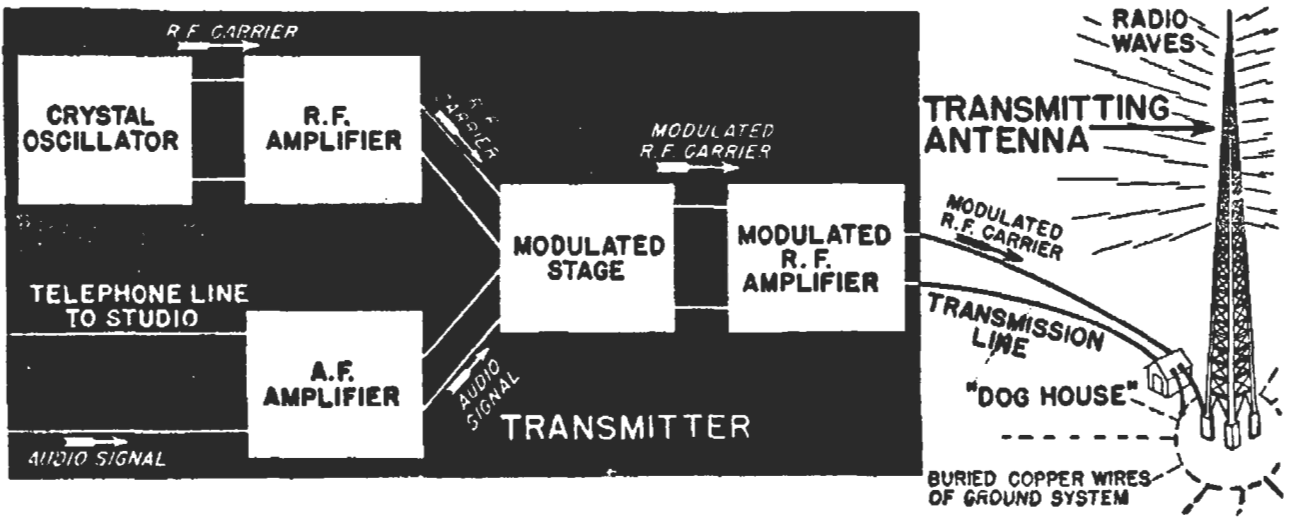

FIG. 12. All the main sections of a broadcast transmitter are shown here, along with the basic connections to the transmitting antenna.
**R. F. Amplifier.** At this point, a "picture" of the main sections of a complete transmitter will help you to understand how the audio signal and the r.f. carrier get together. This picture is given in the block diagram in Fig. 12.
The modulated r.f. carrier signal at the output of a radio transmitter is fed to the transmitting antenna tower over a special two-wire transmission line which runs through the tuning house or "doghouse," essentially as was illustrated in Fig. 12. One of the transmission line wires goes to the base of the huge steel antenna tower. This tower is insulated (electrically separated) from the earth by means of insulators. The other transmission line wire goes to a network of buried copper wires which radiate outward for hundreds of feet from the tower like the spokes of a wagon wheel. These wires serve as the *ground* connection.